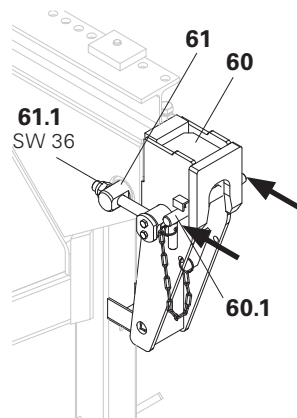

Fig. F2.01
2. Release both bolts (61.1) on the Brace Frame Adapter (61), SW 36.
4. Place Wall Scaffold Hinge SB (60) on the Brace Frame, insert bolts through the right and left holes as well as through the holes of the Brace Frame Adapter.
5. Firmly secure Wall Scaffold Hinge with bolts on the Brace Frame. (Fig. F2.01)